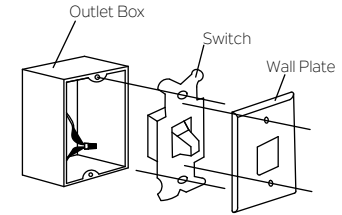

Fig. 21
Step 1. Remove the existing wall plate and the old switch from the wall outlet box. Wire nut the BLACK leads (hot) together and push back inside the outlet box. (Fig. 21) or select the desired location with a new wall outlet box.